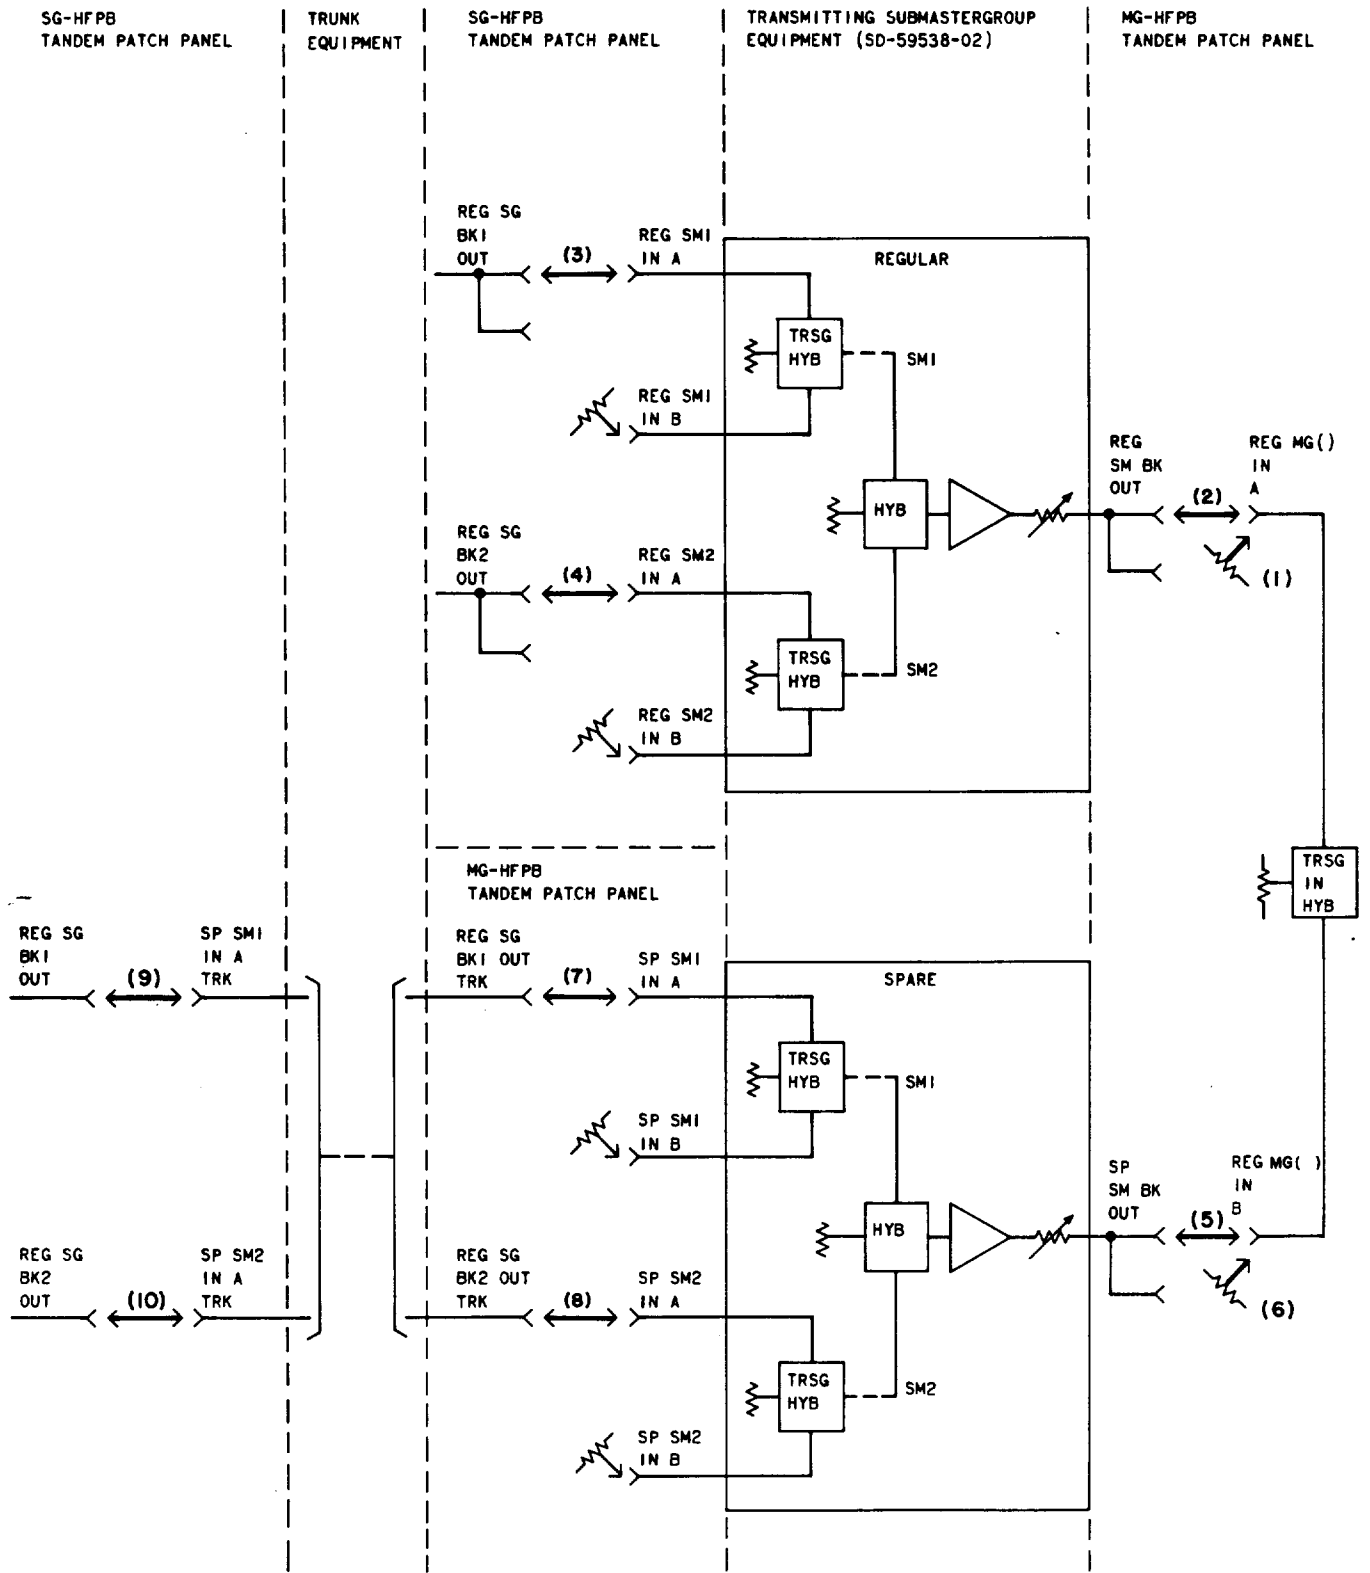

Fig. 4—Restoring Regular Equipment to Service—Patching Procedure
|                          | <p style="text-align: center;">TABLE A</p> <table border="1" style="margin-left: auto; margin-right: auto;"> <thead> <tr> <th data-bbox="272 357 760 395">OLD DESIGNATION</th> <th data-bbox="760 357 1287 395">NEW DESIGNATION</th> </tr> </thead> <tbody> <tr> <td data-bbox="272 395 760 434">REG SG BK A OUT</td> <td data-bbox="760 395 1287 434">REG SG BK 1 OUT</td> </tr> <tr> <td data-bbox="272 434 760 472">REG SG BK B OUT</td> <td data-bbox="760 434 1287 472">REG SG BK 2 OUT</td> </tr> <tr> <td data-bbox="272 472 760 510">SP SM A IN LG A</td> <td data-bbox="760 472 1287 510">SP SM 1 IN A</td> </tr> <tr> <td data-bbox="272 510 760 549">REG SM A IN LG A</td> <td data-bbox="760 510 1287 549">REG SM 1 IN A</td> </tr> <tr> <td data-bbox="272 549 760 587">REG OR SP SM A IN LG B</td> <td data-bbox="760 549 1287 587">REG OR SP SM 1 IN B</td> </tr> <tr> <td data-bbox="272 587 760 625">TRSG HYB A</td> <td data-bbox="760 587 1287 625">REG OR SP SM 1 TRSG HYB</td> </tr> <tr> <td data-bbox="272 625 760 663">SP SM B IN LG A</td> <td data-bbox="760 625 1287 663">SP SM 2 IN A</td> </tr> <tr> <td data-bbox="272 663 760 702">REG SM B IN LG A</td> <td data-bbox="760 663 1287 702">REG SM 2 IN A</td> </tr> <tr> <td data-bbox="272 702 760 740">REG OR SP SM B IN LG B</td> <td data-bbox="760 702 1287 740">REG OR SP SM 2 IN B</td> </tr> <tr> <td data-bbox="272 740 760 778">TRSG HYB B</td> <td data-bbox="760 740 1287 778">REG OR SP SM 2 TRSG HYB</td> </tr> <tr> <td data-bbox="272 778 760 817">SP SM A OR B IN</td> <td data-bbox="760 778 1287 817">SP TRK IN</td> </tr> <tr> <td data-bbox="272 817 760 855">REG SG BK A OR B OUT</td> <td data-bbox="760 817 1287 855">REG SG BK 1 OR 2 OUT TRK</td> </tr> <tr> <td data-bbox="272 855 760 893">REG SM OUT</td> <td data-bbox="760 855 1287 893">REG SM BK OUT</td> </tr> <tr> <td data-bbox="272 893 760 932">SP SM OUT</td> <td data-bbox="760 893 1287 932">SP SM BK OUT</td> </tr> <tr> <td data-bbox="272 932 760 970">REG OR SP MG (1) IN LG A</td> <td data-bbox="760 932 1287 970">REG OR SP MG ( ) IN A</td> </tr> <tr> <td data-bbox="272 970 760 1008">REG OR SP MG (1) IN LG B</td> <td data-bbox="760 970 1287 1008">REG OR SP MG ( ) IN B</td> </tr> </tbody> </table> <p>Restoring Regular Equipment To Service</p> <p>16 Locate the jacks (Fig. 2) associated with the regular and spare equipment to be patched.</p> <p>17 At the transmitting tandem patch panel (MG-HFPB), perform the following steps:</p> <p>(a) Remove the 358B plug (75-ohm termination) from the REG MG( ) IN A jack [patch (1), Fig. 4].</p> <p>Note: Jack designations may vary between offices. The new designations (Table A) are used in this procedure.</p> <p>(b) Insert a 372A plug (through connection) into the REG MG( ) IN A and REG SM BK OUT jacks [patch (2), Fig. 4].</p> <p>18 At the transmitting tandem patch panel (SG-HFPB),</p> <p>(a) Insert a 372A plug into the REG SM1 IN A and multiple REG SG BK1 OUT jacks [patch (3), Fig. 4].</p> <p>(b) Insert a 372A plug into the REG SM2 IN A and multiple REG SG BK2 OUT jacks [patch (4), Fig. 4].</p> | OLD DESIGNATION | NEW DESIGNATION | REG SG BK A OUT | REG SG BK 1 OUT | REG SG BK B OUT | REG SG BK 2 OUT | SP SM A IN LG A | SP SM 1 IN A | REG SM A IN LG A | REG SM 1 IN A | REG OR SP SM A IN LG B | REG OR SP SM 1 IN B | TRSG HYB A | REG OR SP SM 1 TRSG HYB | SP SM B IN LG A | SP SM 2 IN A | REG SM B IN LG A | REG SM 2 IN A | REG OR SP SM B IN LG B | REG OR SP SM 2 IN B | TRSG HYB B | REG OR SP SM 2 TRSG HYB | SP SM A OR B IN | SP TRK IN | REG SG BK A OR B OUT | REG SG BK 1 OR 2 OUT TRK | REG SM OUT | REG SM BK OUT | SP SM OUT | SP SM BK OUT | REG OR SP MG (1) IN LG A | REG OR SP MG ( ) IN A | REG OR SP MG (1) IN LG B | REG OR SP MG ( ) IN B |
| 21   | <p>At the transmitting tandem patch panel (MG-HFPB),</p> <p>(a) Remove the 372A plug from the SP SM BK OUT and REG MG( ) IN B jacks [patch (5), Fig. 4].</p> <p>(b) Insert a 358B plug into the REG MG( ) IN B jack [patch (6), Fig. 4].</p>  |
| 24   | <p>At the transmitting tandem patch panel (MG-HFPB),</p> <p>(a) Remove the 372A plug from the SP SM1 IN A and REG SG BK1 OUT TRK jacks [patch (7), Fig. 4].</p> <p>(b) Remove the 372A plug from the SP SM2 IN A and REG SG BK2 OUT TRK jacks [patch (8), Fig. 4].</p>                    |
| 25   | <p>At the transmitting tandem patch panel (SG-HFPB),</p> <p>(a) Remove the 372A plug from the SP SM1 IN A TRK and multiple REG SG BK1 OUT jacks [patch (9), Fig. 4].</p> <p>(b) Remove the 372A plug from the SP SM2 IN A TRK and multiple REG SG BK2 OUT jacks [patch (10), Fig. 4].</p> |